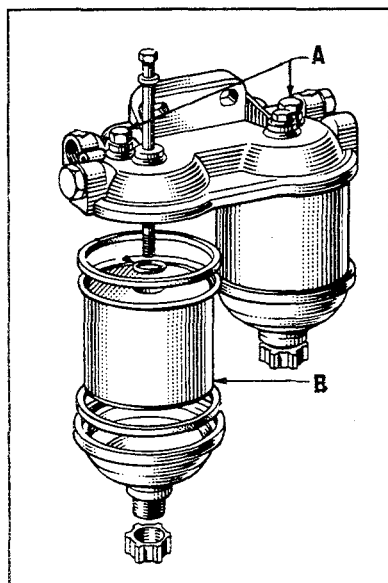

FIG. 6
3. Loosen the bleed screw on the inlet side of the fuel filter (Fig. 6 & 7) about two or three turns.